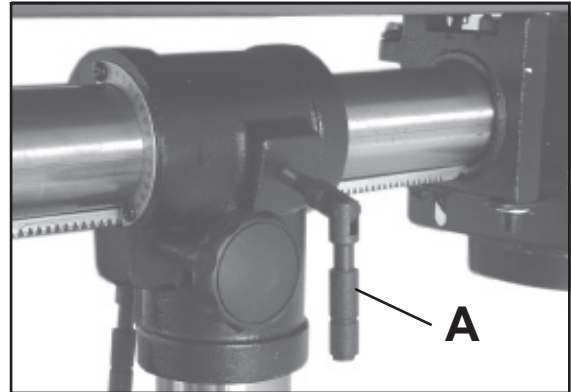

Figure 19
1. Loosen the lock handle (A-Fig.19) on the right side of the drill press head.